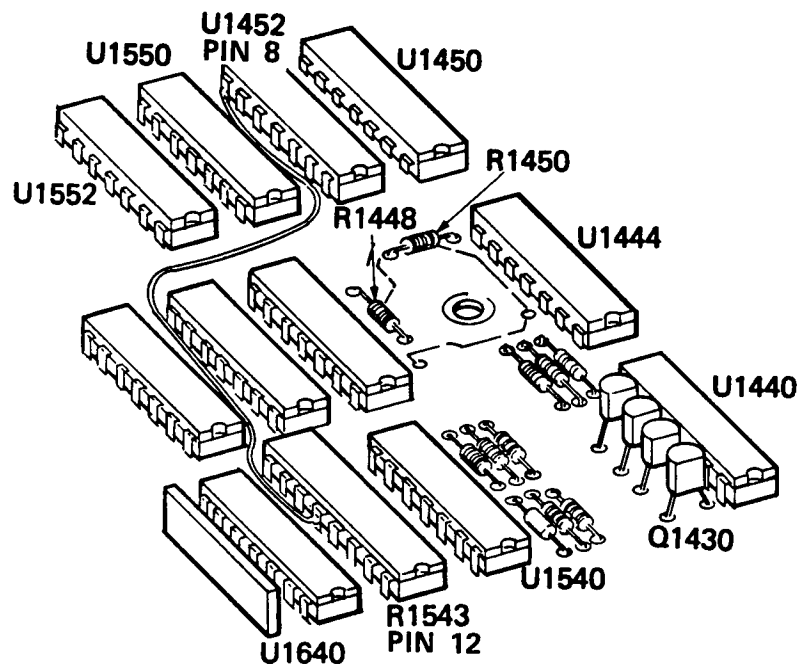

Figure 9. - Partial. Acquisition ckt bd.
- () 19. Solder a length of blue 30 AWG wire connecting U1452, microcircuit pin 8 to R1543, resistor network pin 12, refer to Figure 9.